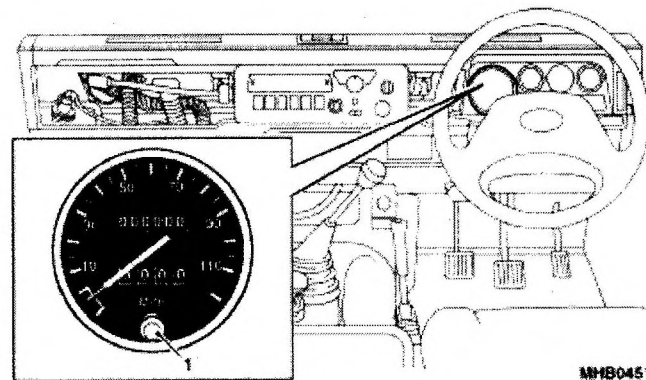

Fig 3 Speedometer and trip setting
6 The speedometer (Fig 3) indicates the speed of the vehicle in kilometres per hour with a miles per hour subscale. The speedometer incorporates a total distance indicator and a trip distance indicator with a trip reset button (1).